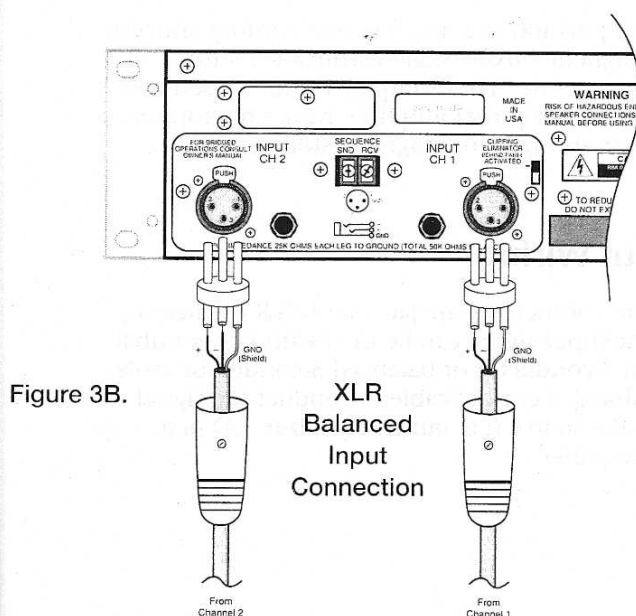

Figure 3B.
**XLR:** Use a male XLR connector. Pin 2 carries the "+" (hot, non-inverting) side of the signal, Pin 3 carries the "-" (low, inverting) side of the signal, and Pin 1 is ground (see Figure 3B).